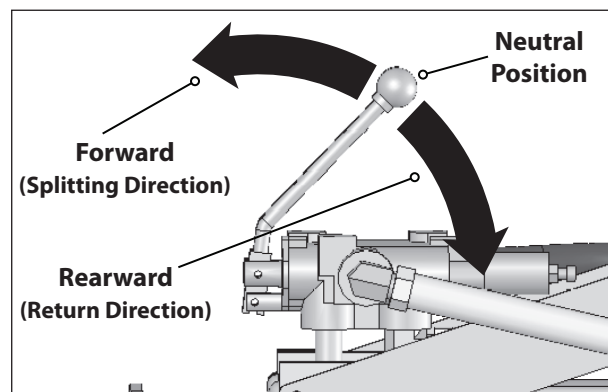

Figure 17
4. Move control lever forward to extend the hydraulic cylinder all the way. (It is normal for the cylinder to not move smoothly as it purges the air from the system.) **SEE FIGURE 17 AND/OR 18.**
5. Move control lever to the return position until ram is retracted fully. **SEE FIGURE 17 AND/OR 18.**
With the correct amount of hydraulic fluid in the system, operate the cylinder ram all the way into the forward direction and all the way in the return direction. **SEE FIGURE 17 AND/OR 18.** Check that the ram moves smoothly without jerking. Check that there is no leaking of fluids at component ports, fittings, or hoses. If leaking is found, tighten fittings or clamps until leaking goes away. If leaking doesn't go away, contact Ardisam Customer Service (800-345-6007 M-F 8:00-5:00 PM CST, or e-mail info@ardisam.com).
SEE FIGURE 17 AND/OR 18